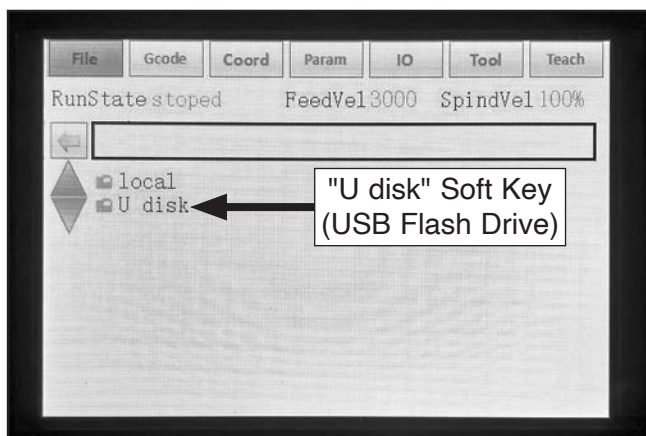

Figure 54. Example of controller file screen.
4. Navigate to "U disk" soft key (see **Figure 54**) and press "Enter" button, then navigate to "Open" soft key and press "Enter" button to open.